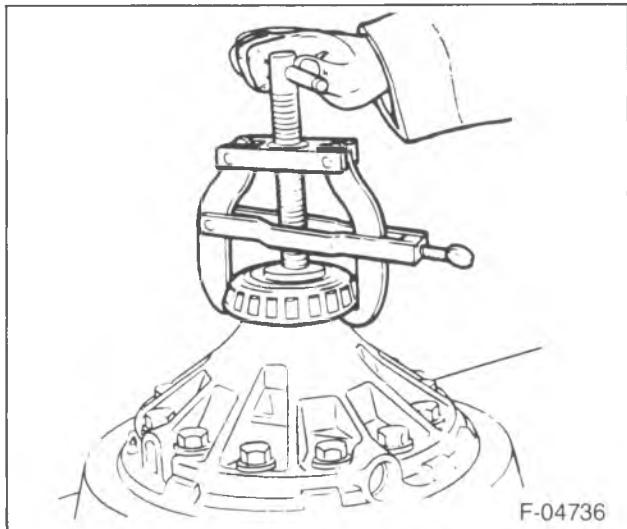

Figure 2—Removing the Differential Side Bearings
- 2. Axle shafts (47). Refer to the proper service manual.
- 3. Adjusting nut lock bolts (22).
- 4. Adjusting nut lock (21).
- Loosen the adjusting nuts (19).
- 5. Differential bearing cap bolts (28) and washers (27).
- 6. Differential bearing caps (20).
- 7. Adjusting nuts (19) and bearing cups (18).
- 8. Differential carrier (34).
- 9. Differential side bearings using J 23759-A and J 8107 (figure 2).
- 10. Ring gear bolts (36) and washers (35).